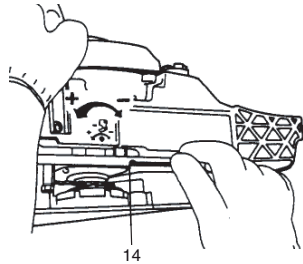

Fig. 9
Turn the adjusting screw (14) counter-clockwise to increase the quantity and turn it clockwise to decrease the quantity. (Fig. 9)